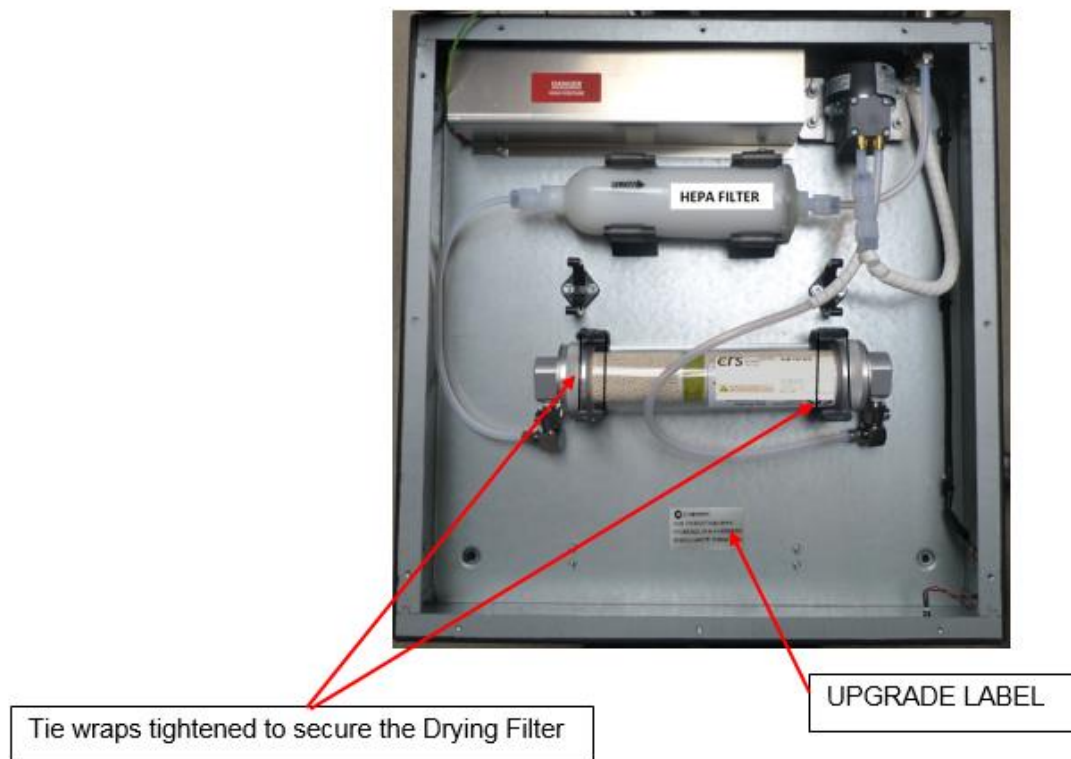

Figure 6
- Utilize tie-wraps provided to hold the new filter clips together at each end as shown in Figure 6.